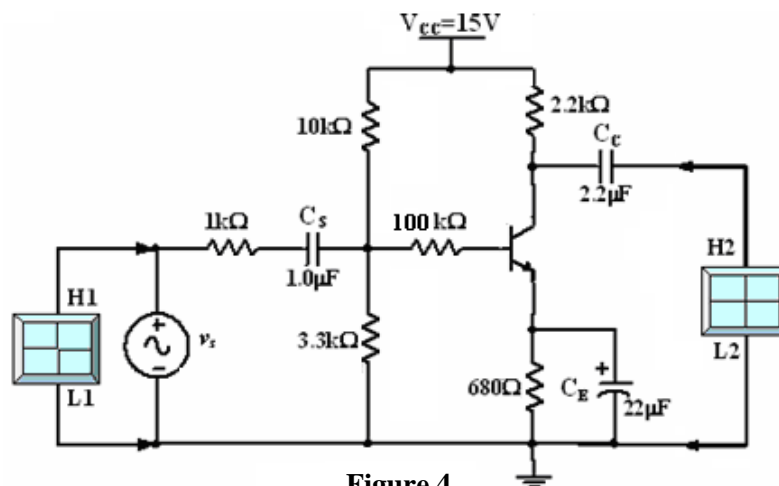

Figure 4
- 1- Construct the circuit shown in Figure 4 by using **BC107** transistor.
- 1- Connect the circuit shown in Figure 5 which is the same circuit shown in Figure 4 but we add **load resistor  $R_L = 1.2k\Omega$** .